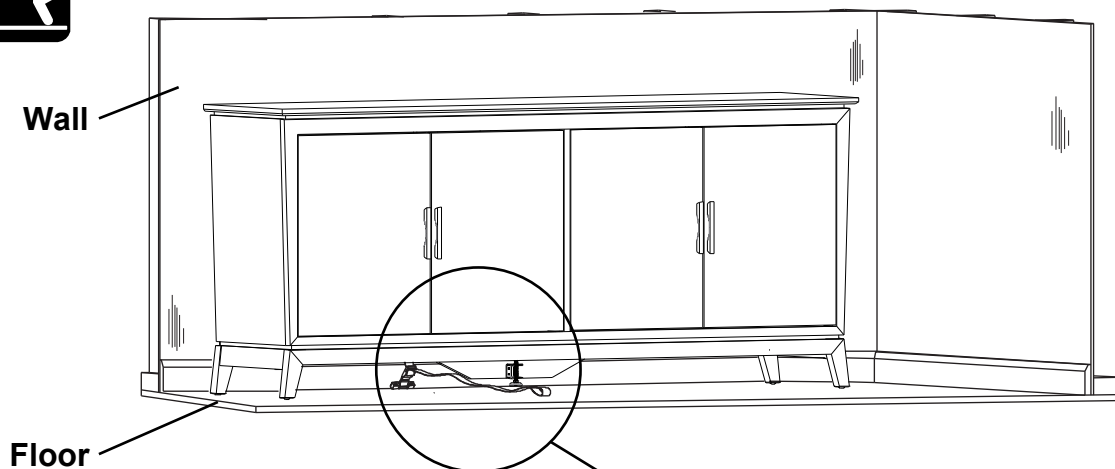

Fig. 5
5. Move the item back into position against the wall and reach underneath the piece of furniture to grasp the loop in the free end of the strap. Pull the free end of the strap until portion between the Cam Buckle (A) and the back apron of the item is tight. See Figures 5 and 5a. If you need to move the piece of furniture reach beneath and locate the buckle which connects the two sections of the strap and depress the release lever, then pull on the section of strap that is between the buckle and the back apron of the furniture until there is enough slack to allow you to pull the item away from the wall.